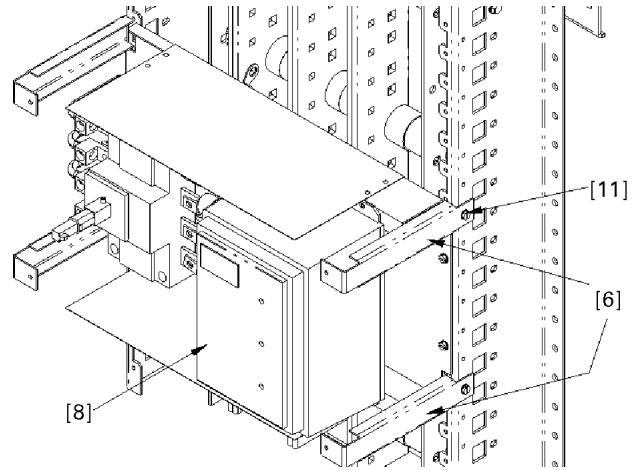
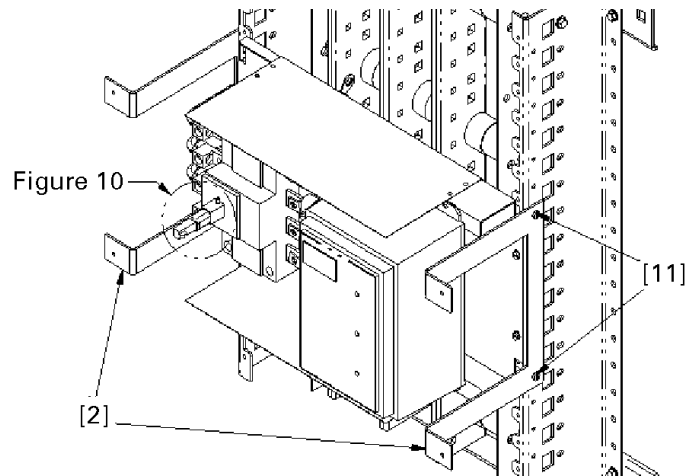

Figure 8. Filler supports for 27 and 31 wide panelboards or 35 wide switchboards.
Figure 9. Filler supports for 36, 40, and 44 wide panelboard or 40 and 45 wide switchboard.
5. **Install the filler supports.** For 27W, 31W, and 35W panels, mount four filler supports [6] to the Z rail of the vertical bus interior, as shown in Figure 8. For 36W, 40W, 44W, and 45W panels, mount two filler supports [2] to the Z rail, as shown in Figure 9. Secure the supports with 10-32 x 7/16" thread-forming screws [11] and tighten to 22 in.-lb.